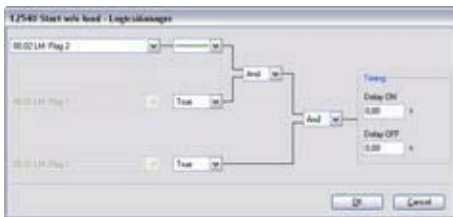

Fig. 176: LogicsManager function "Start without load"
3. ➤ The LogicsManager function "Start without load" (parameter 12540 ↗ p. 278) can be configured as shown in (Fig. 176).